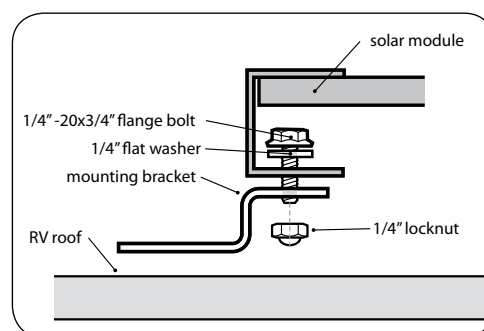
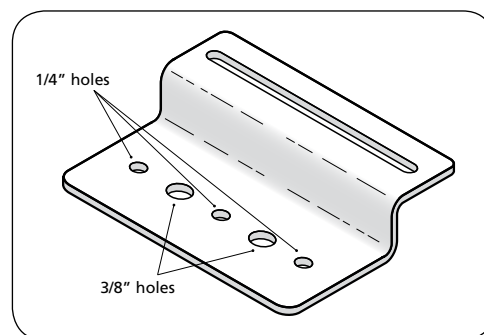

Fig. 8.1. Attaching solar panel to 5-hole mounting bracket.
Fig. 8.2. 5-Hole Mounting Bracket.
2. Fix the mounting brackets (Fig. 8.2) to the frame of the previously positioned solar panel using the slotted opening and the 1/4”-20 x 3/4” Flange Bolt, Nylon Locknut and flat washer (Fig. 8.1).
5. The centre and end holes on the mounting brackets (Fig. 8.2) are sized to accept the 1/4” hardware supplied with the unit. If the use of larger sized hardware is desired, holes 2 and 4 can be used.